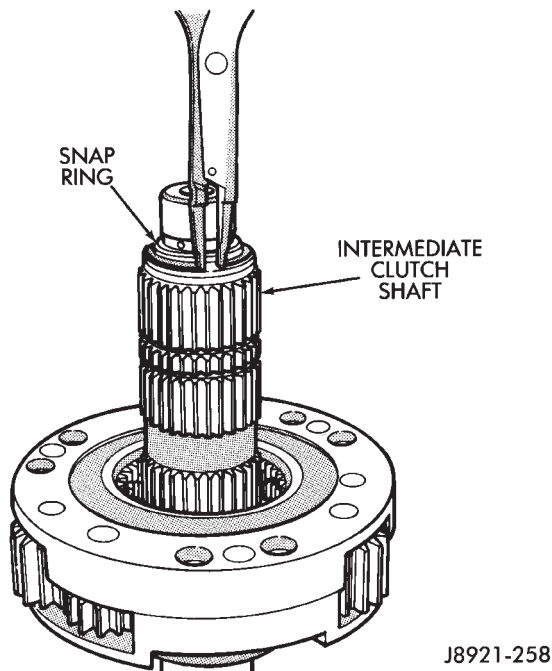

Fig. 27 Intermediate Clutch Shaft Snap Ring Removal
- (7) Remove intermediate clutch shaft snap ring (Fig. 27).